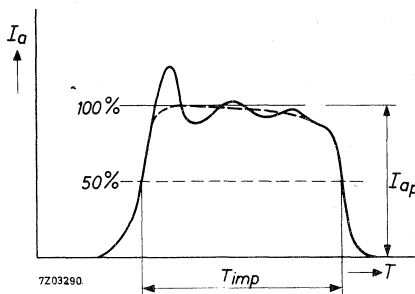

Fig. 1.
- T_{imp} The pulse duration T_{imp} is defined as the time interval between the two points on the current pulse at which the current is 50% of the smooth peak current (see fig. 1).